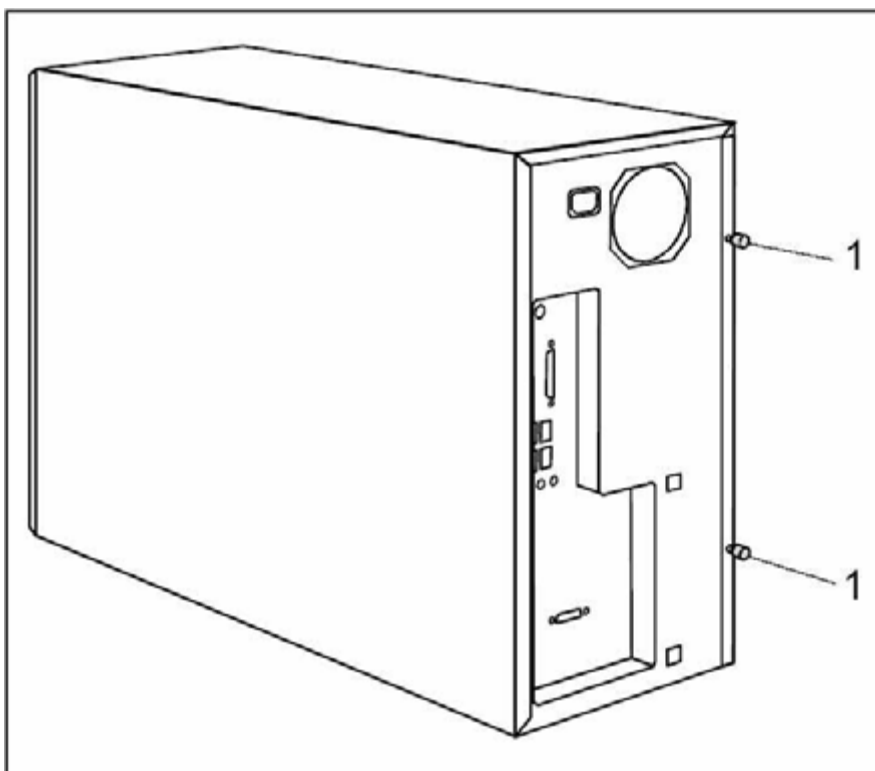

Fig. 48: Remove PC cover_a M450_
4. Unscrew the two knurled screws (1/ Fig. 48 / p. 94) on the back of the casing.